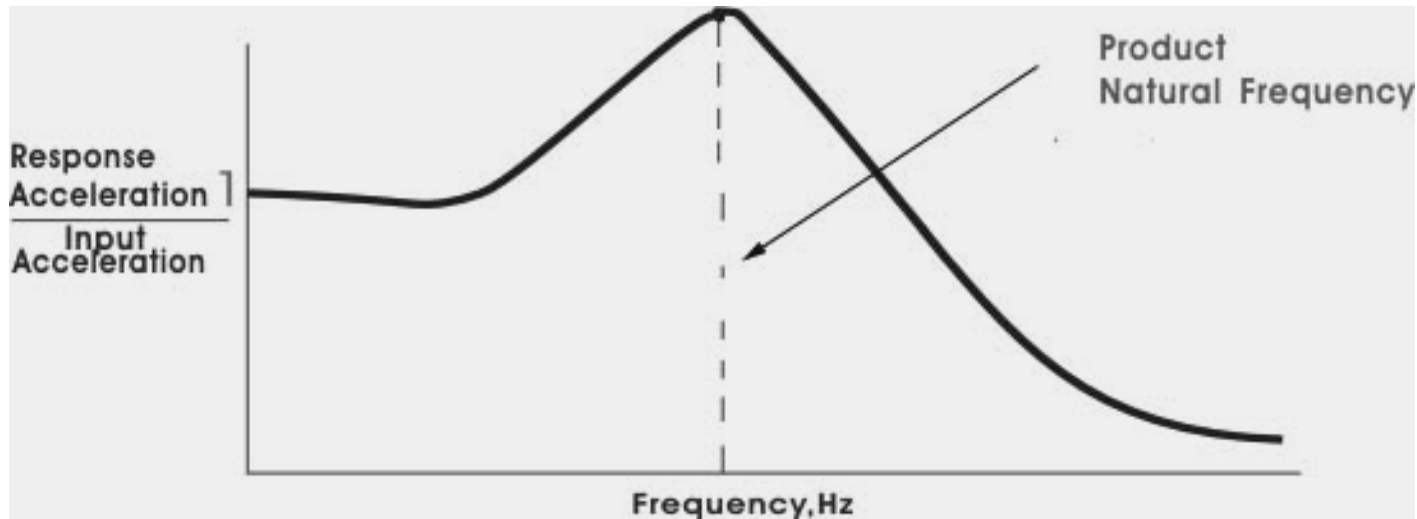

Figure 14.5 Typical resonant frequency transmissibility curve
- Response of a product or component to input vibration may be represented by a curve similar to that shown in Figure 14.5.